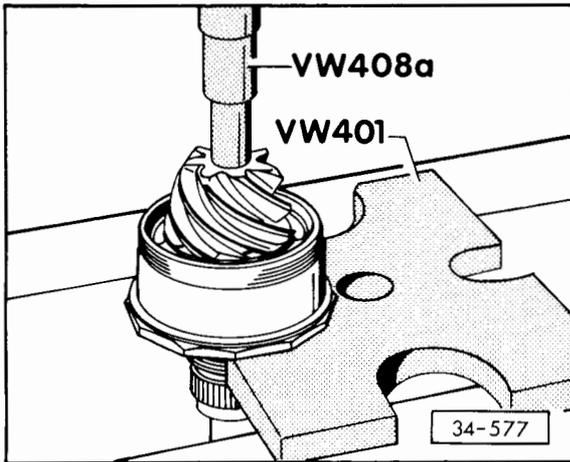

Fig. 5 Heat inner races of double tapered roller bearing to about 100° C, install and press home
- Fit warm and press home – Fig. 5